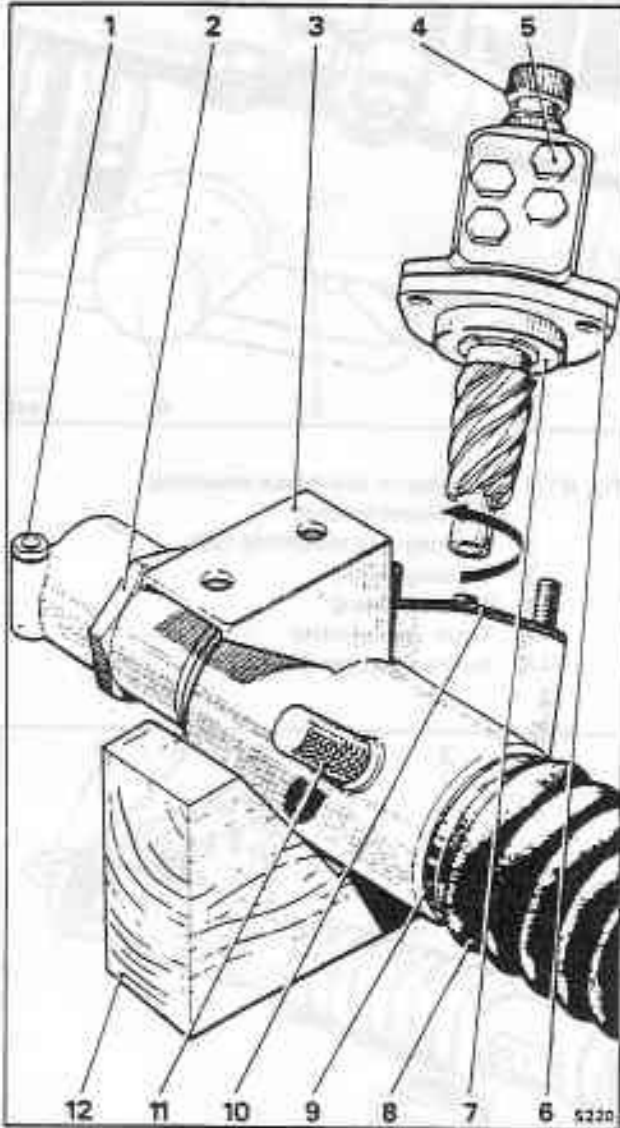

Fig. N1-5 Pinion and spool valve removal
4. Unscrew the three nuts, and release the pinion and valve housing assembly by gripping the pinion spline with one hand, and keeping the two halves of the valve housing together with the other hand. With a turning movement lift the assembly using the splined shaft, clear of the pinion position (see fig. N1-5).